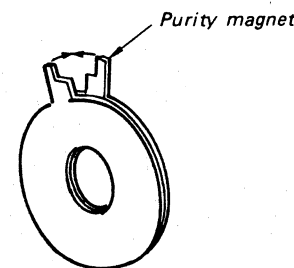
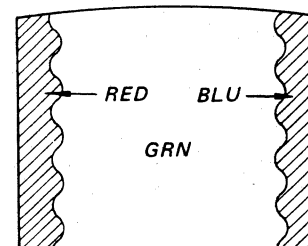

Fig. 3-1.
Fig. 3-2.
3. Adjust purity magnet tabs as shown in Fig. 3-1.
5. Disconnect leads ① and ③ on the C board.
6. Adjust purity magnet tabs to centre vertical green band as shown in Fig. 3-2.